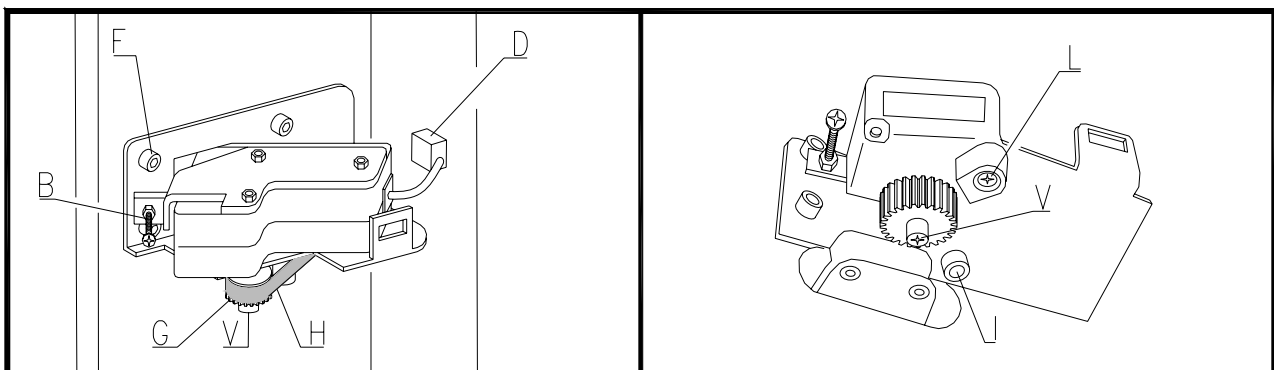

FIG. 18
To replace the delivery door drive motors proceed as follows (please refer to FIG. 18):
The belt of delivery door can be adjusted following instruction below (see FIG. 18):
3. Pull out the small belt pos. H FIG. 18;